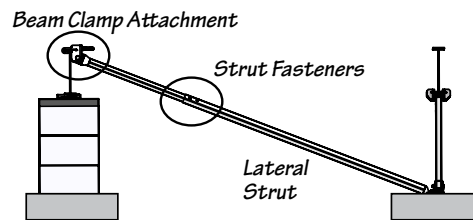

Fig. 4-3
- Secure the extended lateral strut by mounting 4 self tapping screws in the 4 holes in the outer lateral tube as shown in Fig. 4-3. Attach two screws per side.